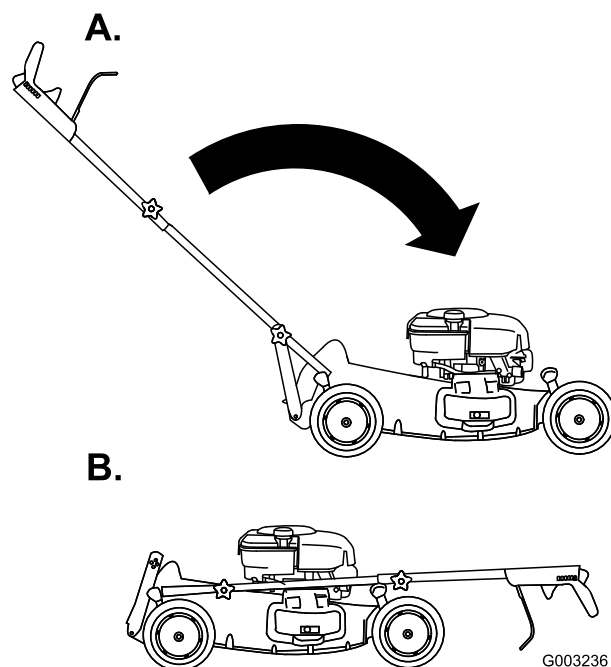

Figure 37
3. Rotate the handle forward (Figure 37).